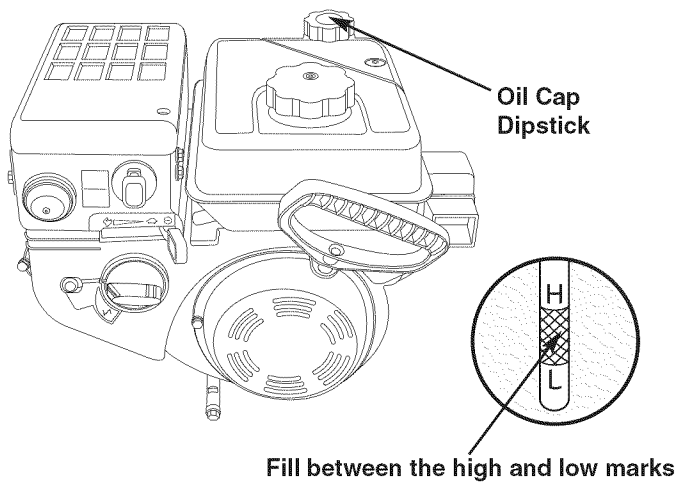

Figure 6
1. Remove the oil filler cap and dipstick. Wipe the dipstick clean (see Fig. 6).